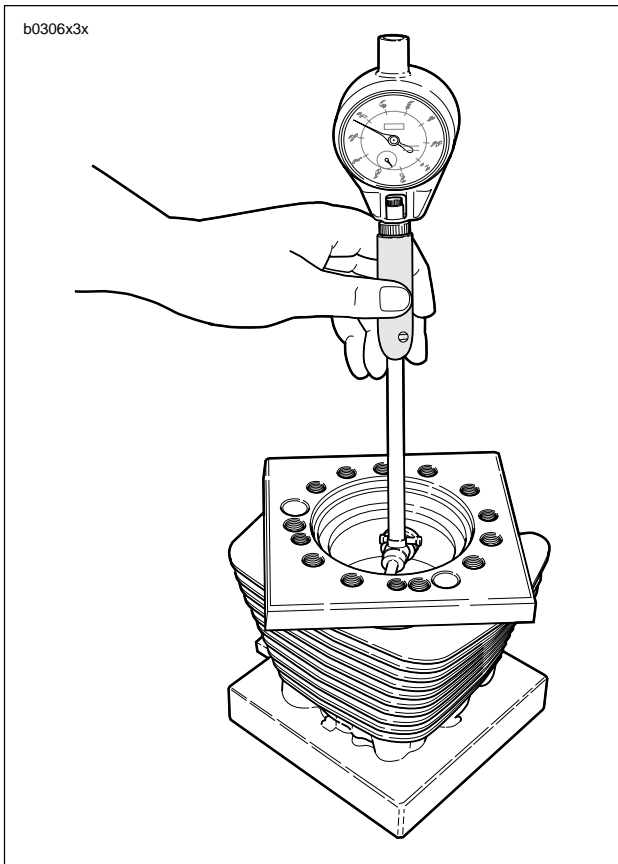

Figure 3-96. Measuring Cylinder Bore Using Torque Plates (Part No. HD-33446B)
2. See Figure 3-96. Install a head gasket, base gasket and O-rings, and CYLINDER TORQUEPLATES (Part No. HD-33446B) and XL EVOLUTION TORQUE PLATE BOLTS (Part No. HD-33446-86). Tighten the bolts using the same method used when installing the cylinder head screws. See 3.6 CYLINDER HEAD.
3. See Figure 3-96. Take cylinder bore measurement in ring path, starting about 0.50 in. (12.7 mm) from top of cylinder, measuring from front to rear and then side to side. Record readings.